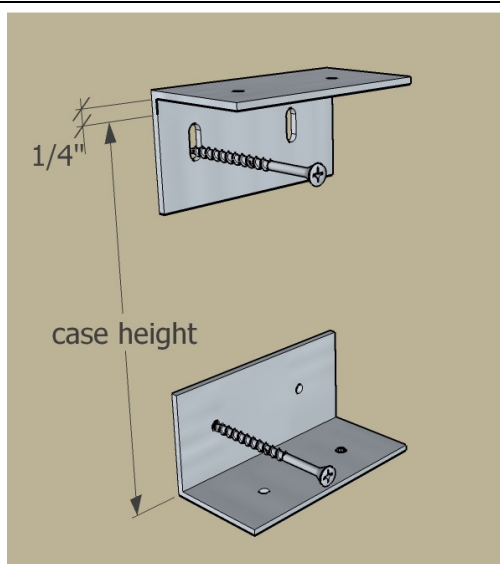

Figure 1.
1. If the unit is to be installed "hung on the wall", then plan for one mounting clip installed on every stud available. Measure the case height & width. Attach the lower mounting Brackets (non-slotted angle brackets) LEVEL at desired elevation using chalk line & level or laser level. (Be sure to use the proper mounting equipment for your wall composition to adequately secure the unit) Attach the upper mounting Brackets (slotted angle brackets) at  $\frac{1}{4}$ " higher than the case height thru the lower part of the slots.(See Figure 1)